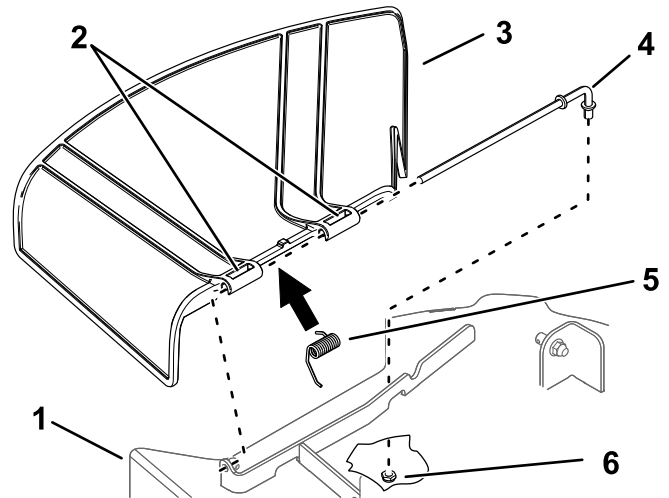

Figure 74
- Remove the nut (3/8 inch) from the rod under the mower (Figure 74).
- Slide the rod out of the deck bracket, spring, and grass deflector (Figure 74).
4. Install the new grass deflector (Figure 74).
7. Slide the rod through the second grass-deflector pivot (Figure 74).
9. Secure the rear end of the rod into the mower with a nut (3/8 inch) as shown in Figure 74.